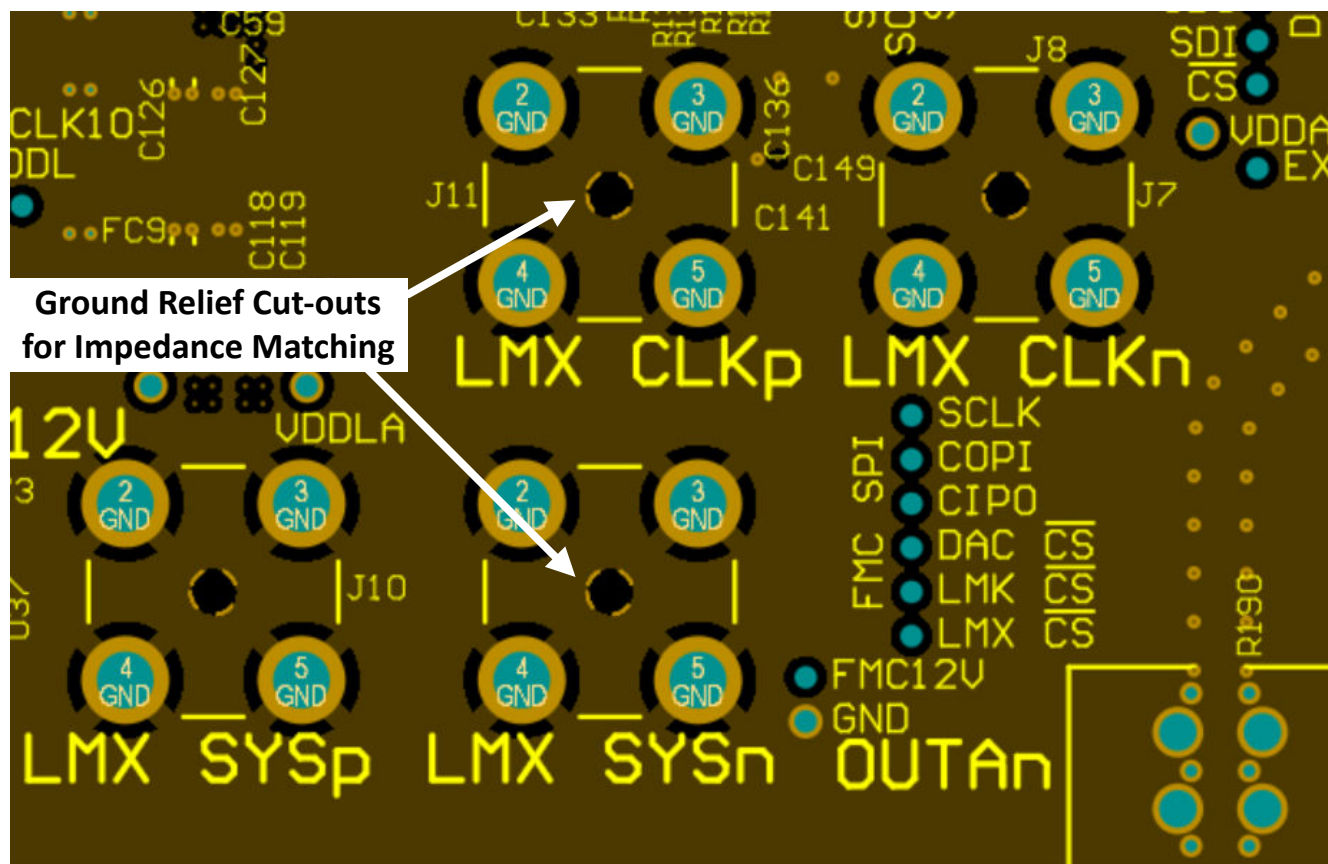

図 8-26. Ground Cut-out Below SMA Connector Center Pin
5. Incorporate any ground plane cutouts necessary at component landing pads, ie – SMA connectors, baluns, and so on, to avoid impedance discontinuities at these locations. Cut-outs below these landing pads on one or multiple ground planes to achieve a pad size or stackup height that achieves the needed 50Ω , single-ended impedance. See 図 8-25 and 図 8-26 as an examples.